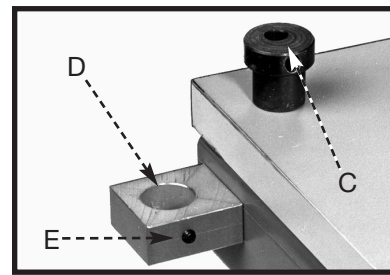
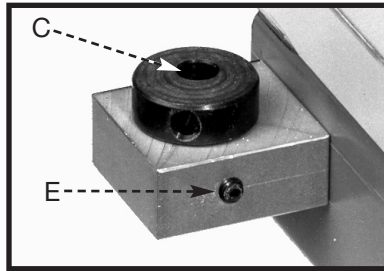

Fig. 41
Fig. 42
17. Insert the rear fence cam (C) Fig. 41 into hole (D) in the bracket. Tighten the set screw (E) Fig. 41 and Fig. 42 to hold the cam (C) in place. Adjustment to the cam (C) will be made later.